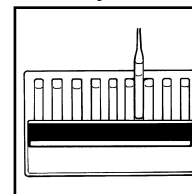

Figure 6
- b. **High Range Comparator (fig. 6):** Place the ampoule between the color standards until the best color match is found.